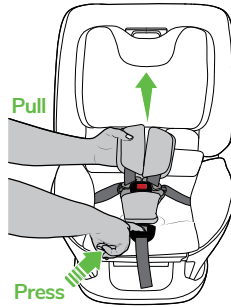

Figure 17
Step 1. Loosen harness straps by pushing down the harness release button at the front of the seat and simultaneously pulling the shoulder straps (Figure 17).